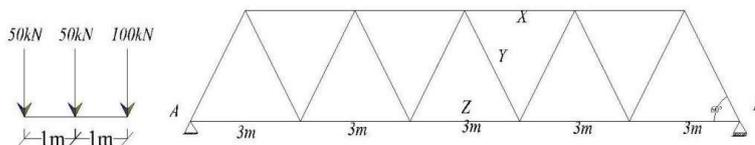

Fig. 9(b)
b. Draw the influence line diagram for members X, Y and Z of the truss shown in Fig 9 (b) . **10** (2 :5 : 1.3.1)